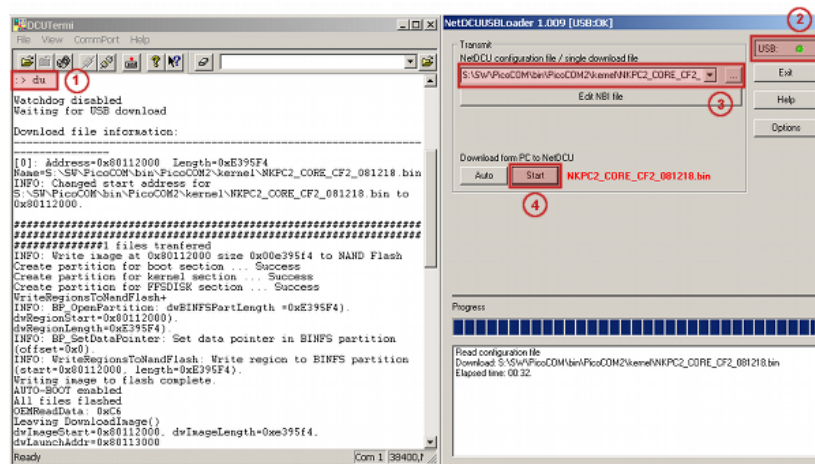

Figure 29: Using the NetDCU-USBLoader utility
To download the WindowsCE Kernel by USB use the command DU (1) and start the NetDCU-USBLoader utility on your desktop PC. As soon as the connection is established, the button in the top right corner of NetDCU-USBLoader turns from red to green (2). Select the respective <NK-kernel-image>.bin file (3) and click on 'Start' button (4). You should now see progress similar to Figure 29.